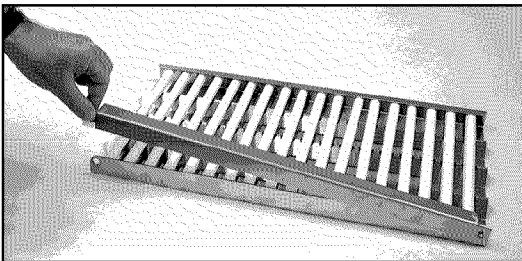

FIG. 37
4. Lock radiant end cap (Fig. 37).